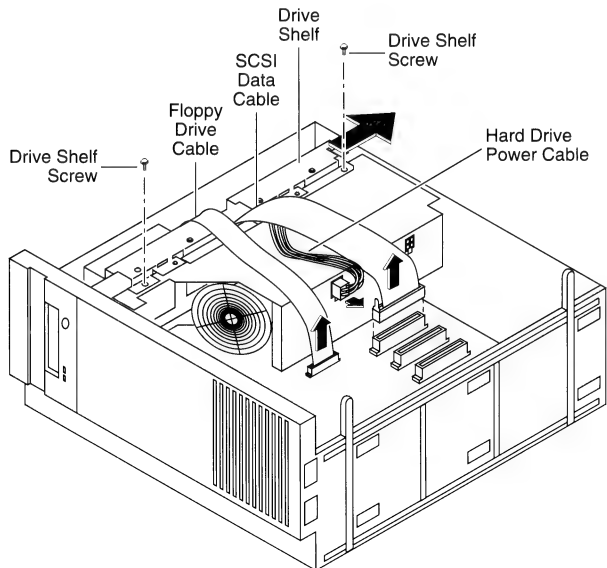

Figure 8 Drive Shelf Assembly
- Disconnect the floppy drive cable and SCSI data cable from the logic board (see Figure 8).
- Disconnect any SCSI power cable(s) from the power supply (see Figure 8).
- Remove the two drive shelf screws (see Figure 8).
- Slide the drive shelf toward the rear of the computer (see Figure 8).